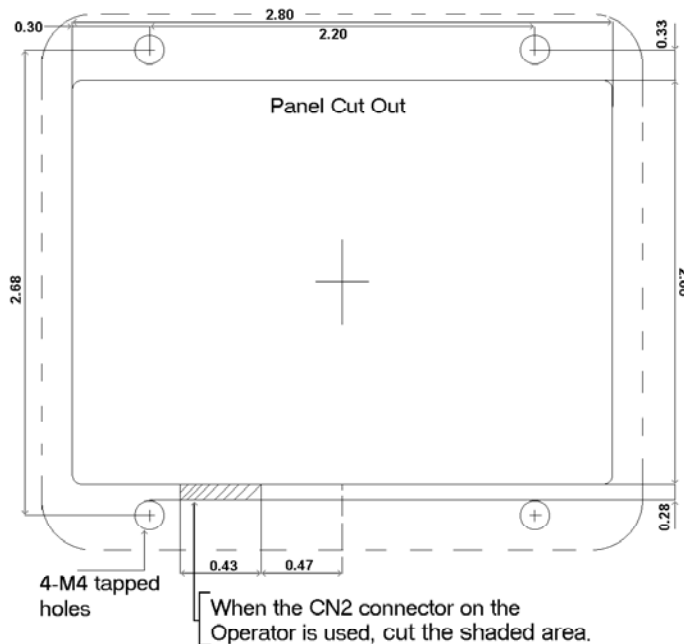

Figure 1: Surface Mount Cutout (dimensions in Inches, not actual size)
11. Cut a hole in the remote operator-mounting panel as shown in Figure 1 for surface mounting.